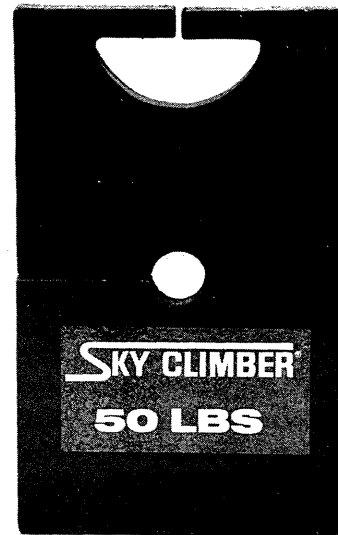

Figure 1.1
1.4.5 Never use a free flowing material in a container as counterweight. Always use a solid material (identified by weight), that can be properly secured to outrigger. See Figure 1.1. Sandbags or liquid filled containers should never be used as counterweight.